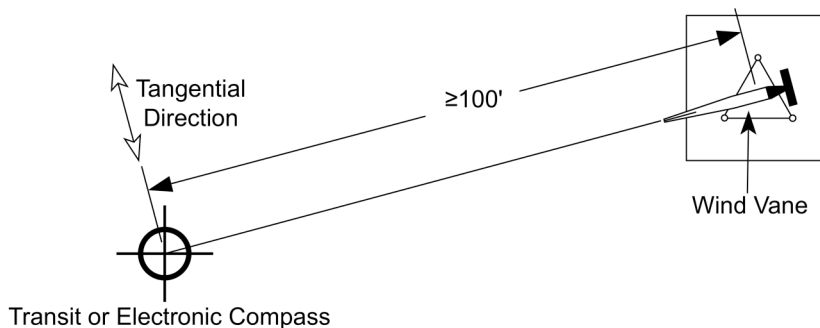

Figure 21. Transit or electronic compass placement.
6. Align the transit or electronic compass tripod position in the tangential direction as exactly as possible with the vane's body, as shown in Figure 21 below. The vane's tail should appear as a thin vertical line and neither of the tail's sides should be visible.